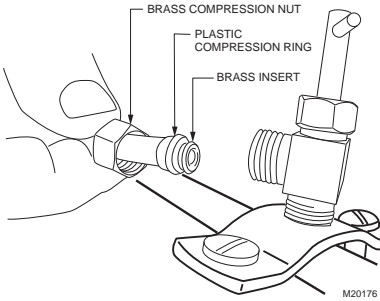

Fig. 8. Installing feed tubing.
3. Use the saddle valve (included) to tap into the water supply line at the location selected. See Fig. 8. If tapping into galvanized pipe, drain line and pre-drill 3/17-in. tap for saddle valve.